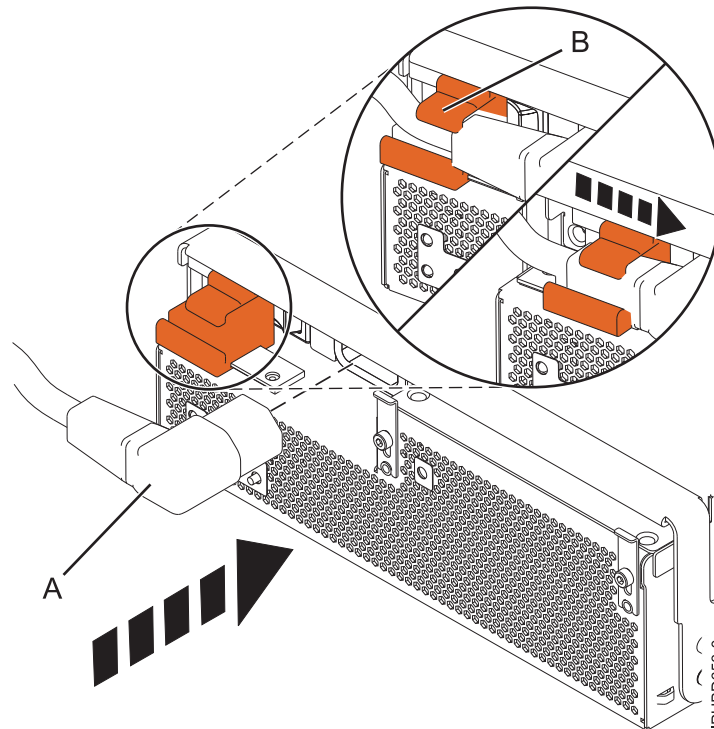

Figure 19. Connecting the power cable to the front of an expansion unit
- Close the locking handle (A) until the power supply locks into position.
8. Reconnect the power cable **(A)** to the front of the power supply, and then slide the cable retention bracket **(B)** to the closed position to secure the cable as shown in Figure 19. By moving the bracket to the closed position, you turn on the power supply.